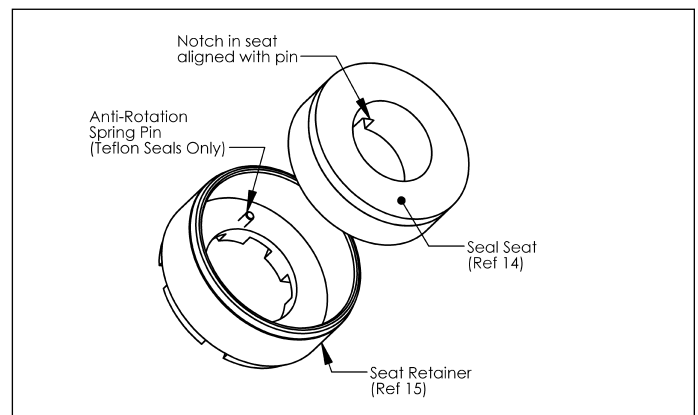

Figure 11 - Seal Seat and Retainer Assembly
- d. Press seal seat into the seal retainer (See Figure 11) using water as a lubricant. The white shiny ceramic face should be visible after pressing the seal into the seal retainer. It is recommended to use a cardboard washer or wood dowel when pushing the seal seat into the seal seat retainer. Any scratches, dirt, or fingerprints on the carbon ceramic faces will cause the seal to leak. The seal seat is stationary in the pump, while the seal on the shaft rotates, providing for the sealing surface.
small hole. About 1/8" to 3/16" of the pin should be exposed inside of the seat retainer (Figure 11). The seal seat is then installed into the seat retainer.